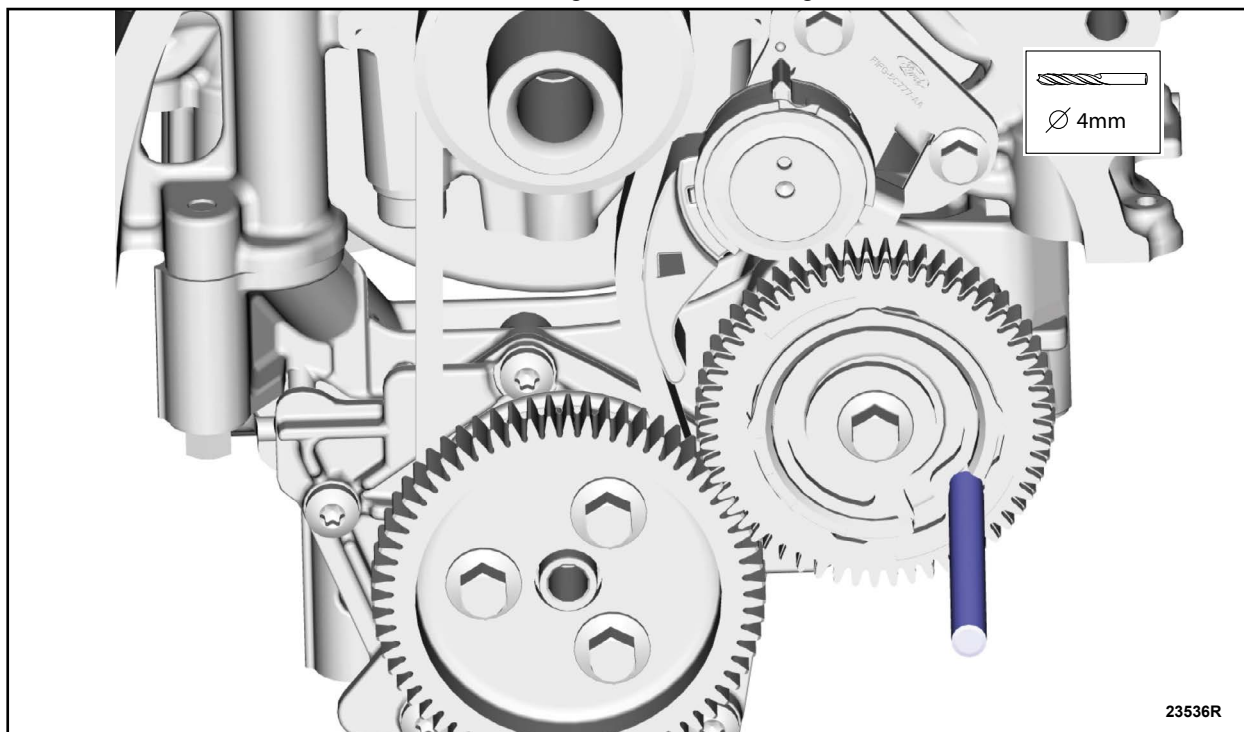

FIGURE 19
25. Install a 4 mm drill bit into the balance shaft gear as shown in Figure 19.